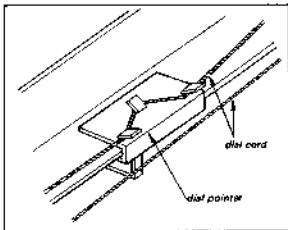

Fig. 2-9. Dial pointer installation
- Put the dial pointer on the cord as shown in Fig. 2-9, and then tune the set to the local fm station. Move the dial pointer to the position where the dial indication coincide with the local station's carrier frequency. Apply a drop of contact cement to it.